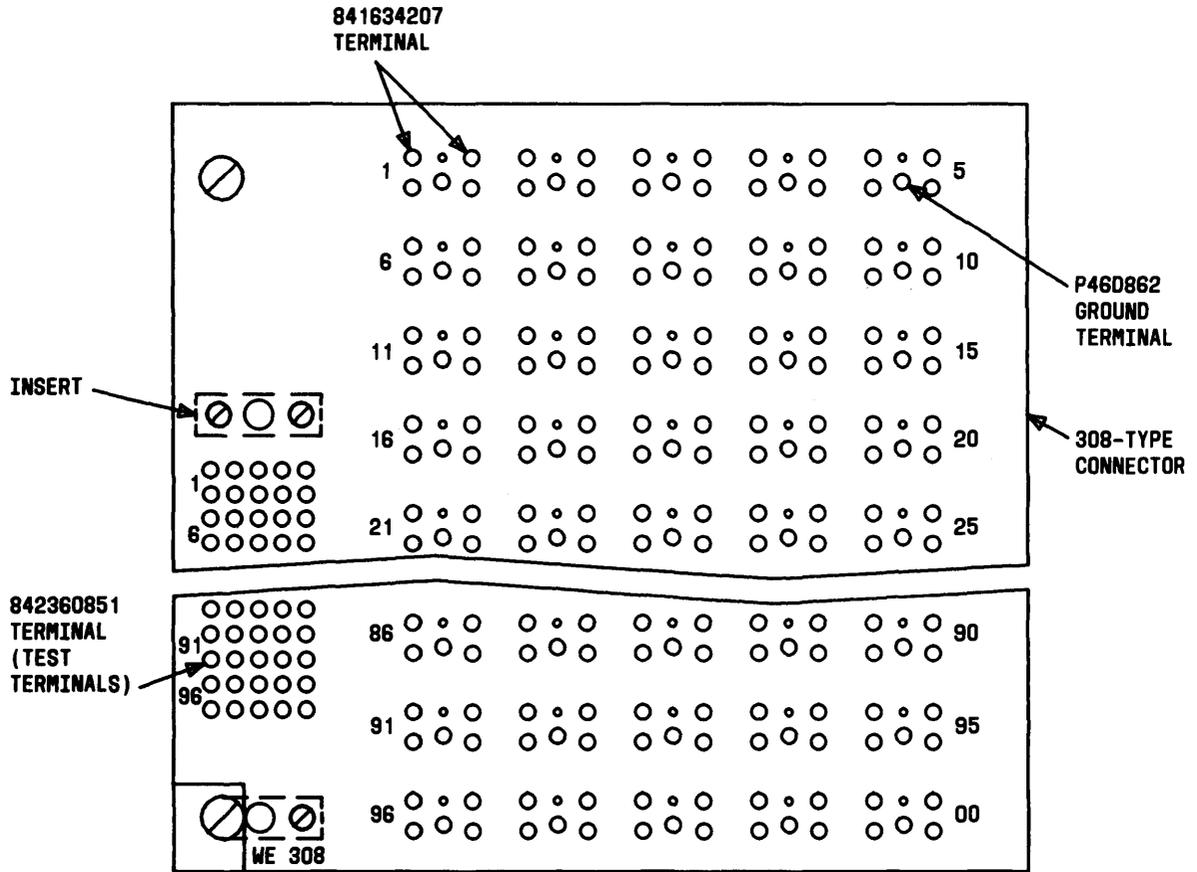

Fig. 2—308-Type Connector Panel
5.01 Threaded Inserts (Fig. 2) The 100-pair P test connector attaches to the 308-type connector by means of two thumbscrew fasteners which engage threaded inserts at the top and bottom of the test contact field. The threaded inserts have different com code numbers due to the varying